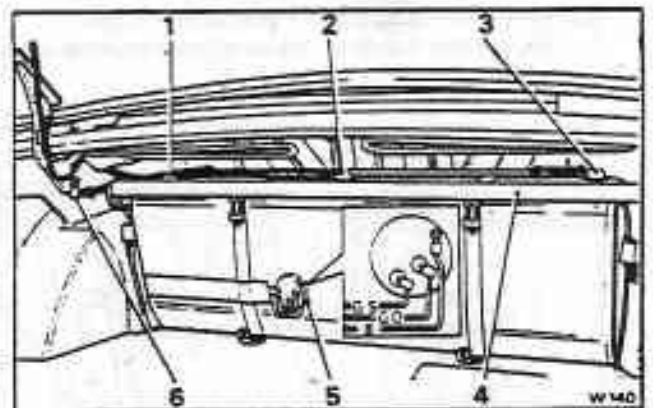

Fig. K2-2 Fuel tank fittings and vent connections
10. Disconnect the three electrical cables from the fuel tank level gauge (see fig. K2-2).
11. Fit a full nut to each bolt. Tighten the full nut and lock each one with a half-nut (see fig. K2-2).
12. Fit all pipework across the top of the fuel tank (see fig. K2-2). Note that the rubber tubing from the vent in the centre of the fuel tank connects to the rollover valve. Secure all ends with Corbin clips.
16. Connect the cables to the fuel gauge sender unit as shown in the inset of figure K2-2.